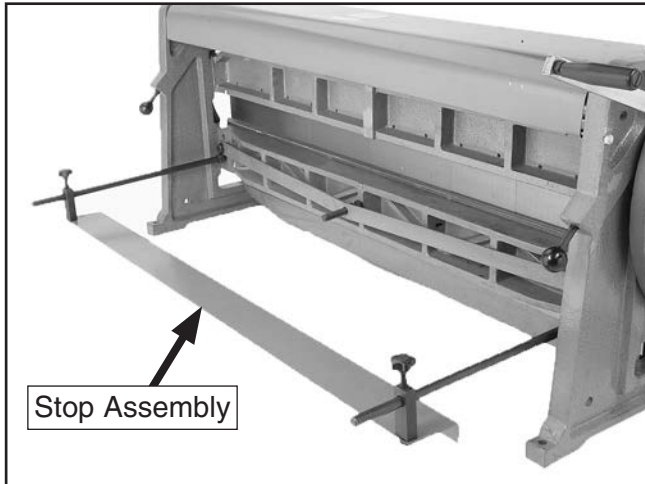

Figure 32. Rear adjustable stop assembly.
1. Adjust the rear stop to fine tune your cut length (**Figure 32**). For the most accurate cuts, make sure that you have at least one square edge of the workpiece up against the stop or a guide.